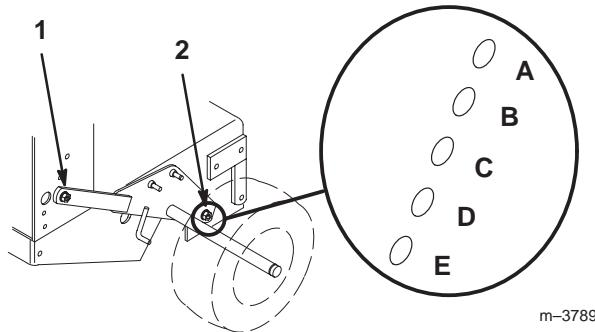

Figure 24
2. Loosen but do not remove the 2 axle pivot bolts and the 2 axle adjustment bolts (Fig. 24).
3. Place a jack under the rear center of the engine frame. Raise the back end of the engine frame up enough to remove front 2 axle adjustment bolts (Fig. 24).
4. Raise or lower the engine frame with the jack, so that front 2 axle adjustment bolts can be installed in the desired hole location (Fig. 24). A tapered punch can be used to help align the holes.